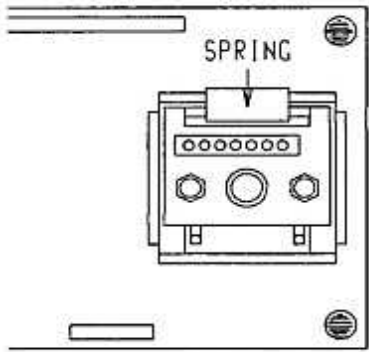

FIGURE 5
15. Attach the heat sink spring from the kit over the chip. Figure 5